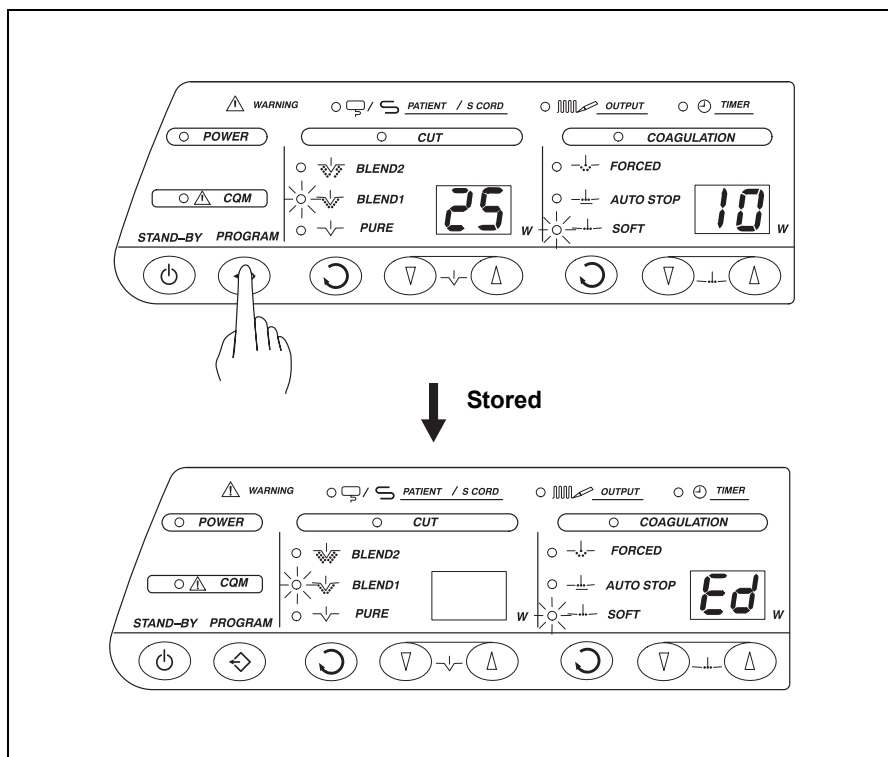

Figure 5.6
2. Press the program switch. A short beep is generated and the output setting, cut mode and coagulation mode set in step 1. will be stored in memory (see Figure 5.6).